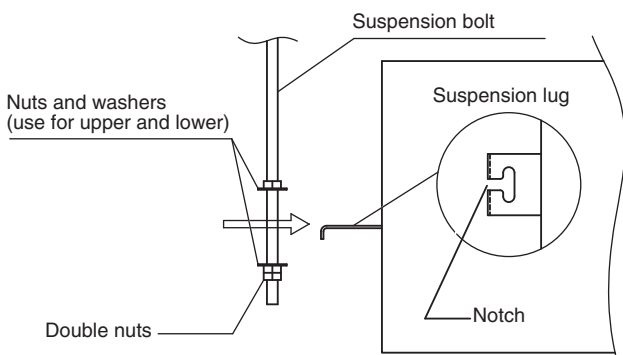

Fig. 3-39
- (3) Thread the 3 hexagonal nuts and 2 washers (field supply) onto each of the 4 suspension bolts (Figs. 3-39 and 3-40). Use 1 nut and 1 washer for the upper part, and 2 nuts and 1 washer for the lower part, so that the unit will not fall off the suspension lugs.